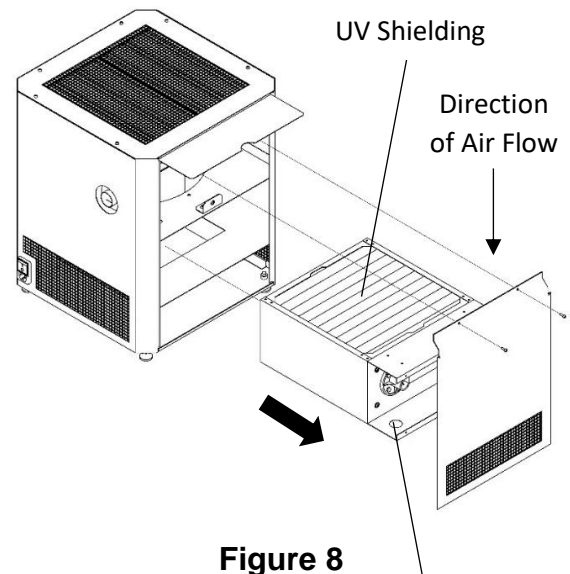

Figure 8
4.) Remove catalyst panel. See Figure 8.
12.) Reinsert catalyst panel. Ensure that arrows on panel match the direction of air flow. See Figure 8.
11.) Reinsert catalyst panel. Ensure that arrows on panel match the direction of air flow. See Figure 8.